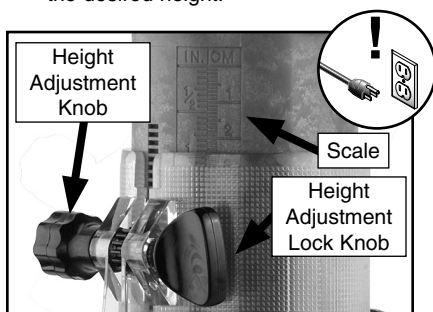

Figure 4. Height adjustment knobs.
2. Loosen the lock knob shown in **Figure 4** and adjust the base to approximately the desired height.